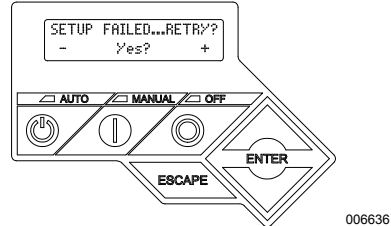

Figure 3-16. Wi-Fi Setup Failure Screen
- See Figure 3-16. The controller displays “Setup Failed...Retry?”